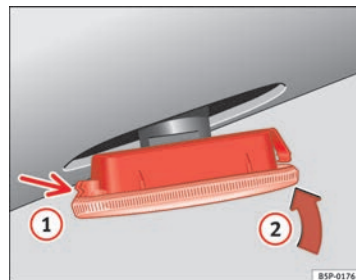

Fig. 223 Side turn signal
- First place the turn signal in the opening in the bodywork, fixing the tabs ⇒ fig. 223, arrow ①.
- Insert the bulb as shown by the arrow ② ⇒ fig. 223. ■